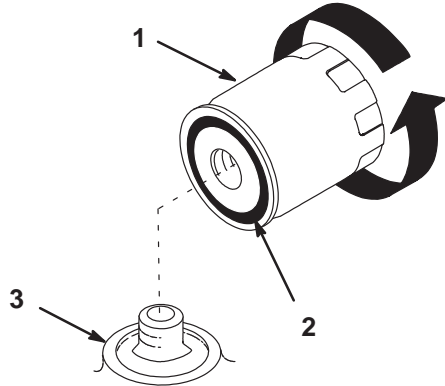

Figure 32
9. Change the oil filter, if necessary (Fig. 32).
2. Remove the old filter and wipe the filter adapter (Fig. 32) gasket surface.
3. Apply a thin coat of new oil to the rubber gasket on the replacement filter (Fig. 32).
4. Install the replacement oil filter to the filter adapter. Turn the oil filter clockwise until the rubber gasket contacts the filter adapter, then tighten the filter an additional 1/2 turn (Fig. 32).